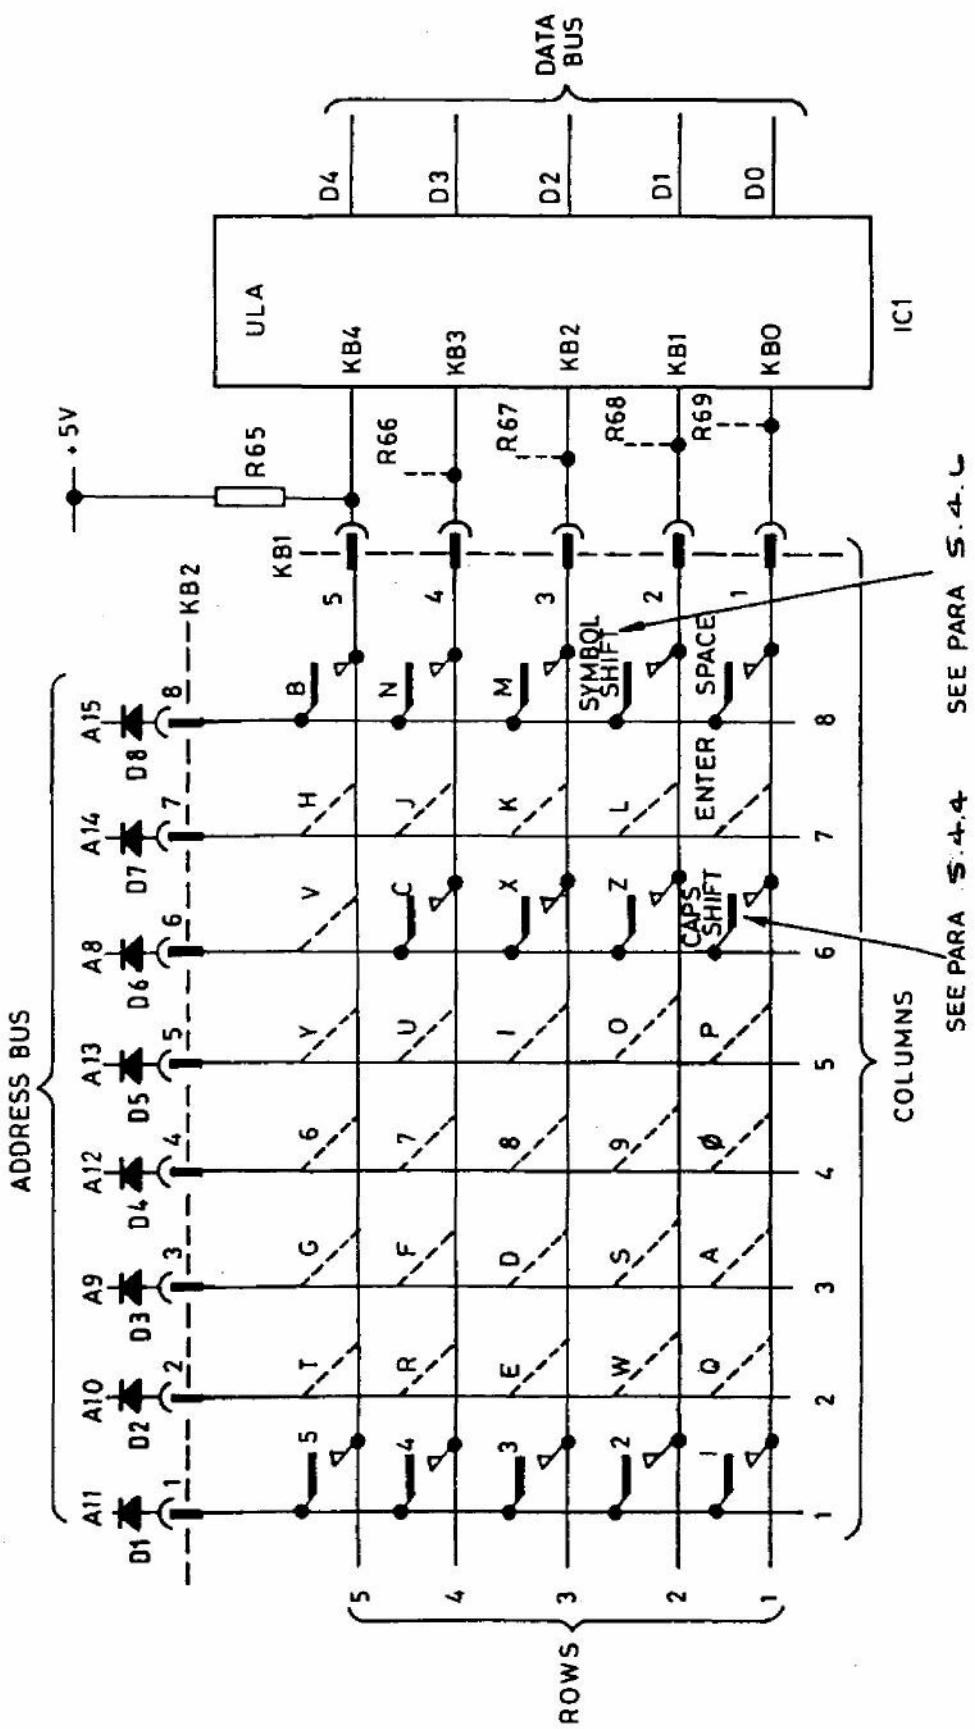

FIG 1.3 KEYBOARD UPPER MEMORY
- 5.4.1 Every 20ms (i.e. once per **maskable** interrupt), the CPU systematically scans the keyboard recording which keys (if any) have been depressed. The scanning method is described below with the aid of Figures 1.3 and 1.4. As the figures clearly illustrate the main keyboard consists of an upper and lower membrane. The upper membrane is organised as an 8 x 5 matrix, the intersection of each row and column bridged by a normally open switch contact. The lower membrane is organised in a similar manner except that only 16 of the intersections are **populated** by switch contacts. The row 'outputs' and column 'inputs' are shown connected in both cases to separate ribbon cables KB1 and KB2, one to the ULA and the other to the high order address lines A15-A8. Pull-up resistors R65 through R69 ensure that when the address bus is in the high Z state, or none of the switch contacts is closed, row outputs KB1-KB4 remain high.